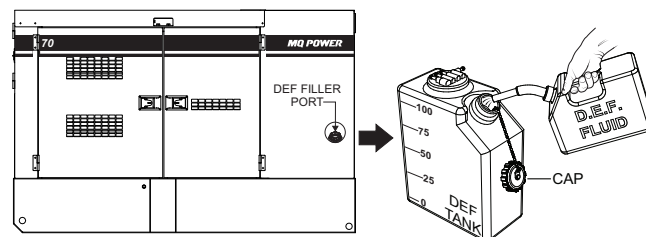

Figure 38. Filling The DEF Tank
2. Remove the cap from the DEF tank filler port (Figure 38).